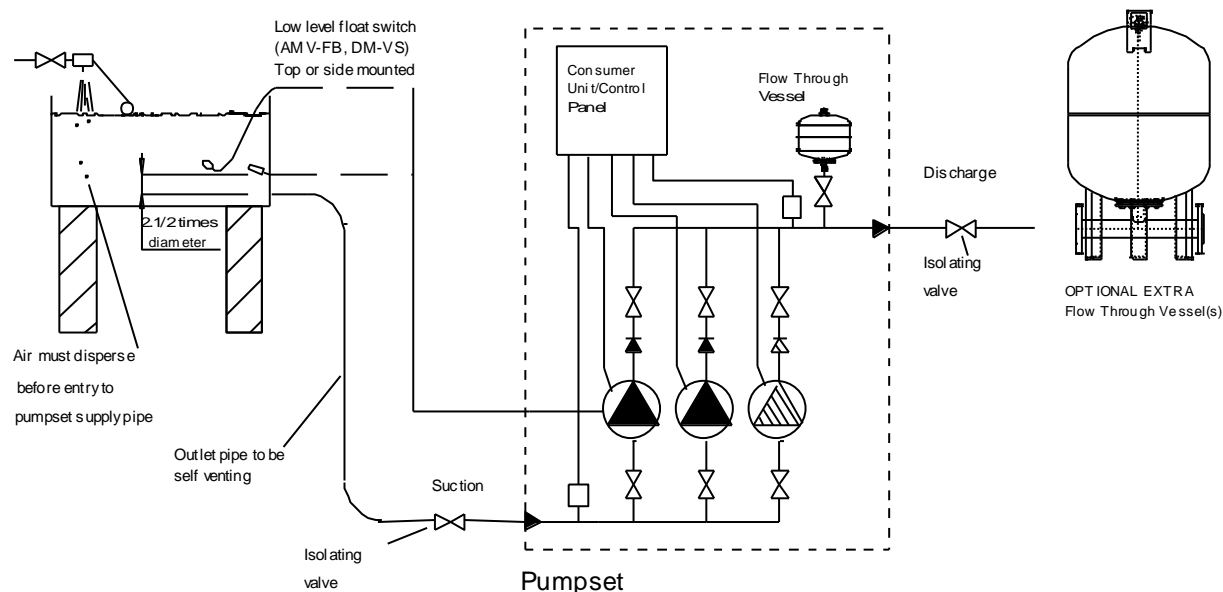

Fig. 1.2 Typical Pipework arrangement
- 1.3.4.2 Arrange the suction pipework to be self-venting between the mains water breaktank and the pumpset suction manifold (see fig.1.2).**
- 1.3.4.3 Fit isolating valves to the suction side and discharge side of the pumpset (see fig.1.2), to enable the pumpset to be isolated from the system for maintenance purposes.**